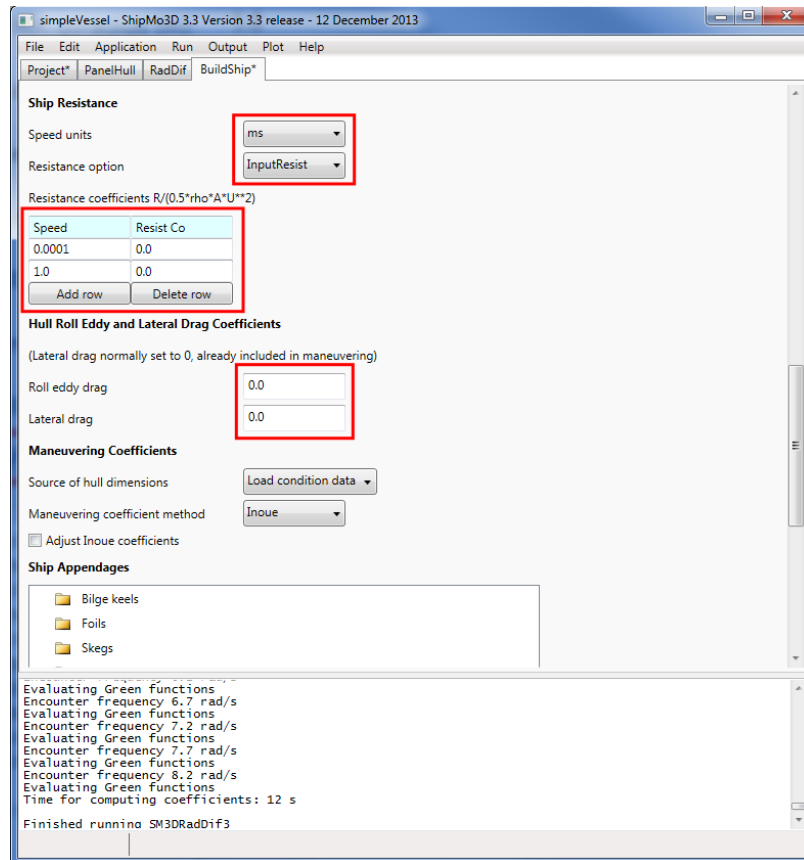

Figure 41: The BuildShip application's pane highlighting how to disable the ship's resistance and lateral drag models.
- 🌟 Under the “Ship Resistance” section, set all parameters as shown in Figure 41.
- 🌟 Under the “Hull Roll Eddy and Lateral Drag Coefficients” section, set all coefficients to 0.0 as shown in Figure 41.